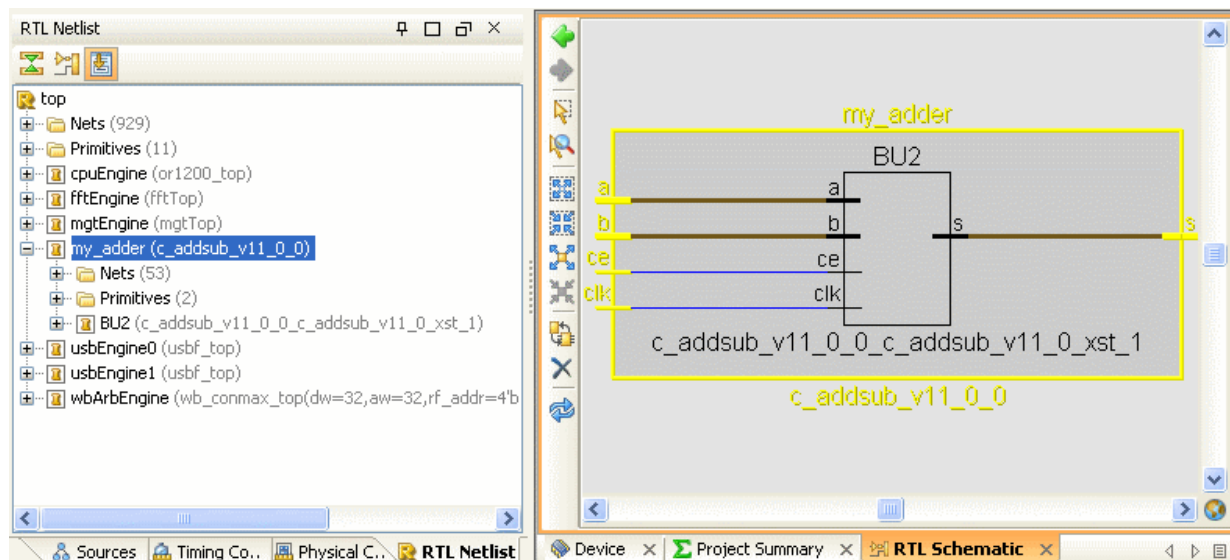

Figure 32: Analyzing the IP Logic in the Schematic
- 8-1-4.** From the toolbar or popup menu, select the **Schematic** command (Figure 32).